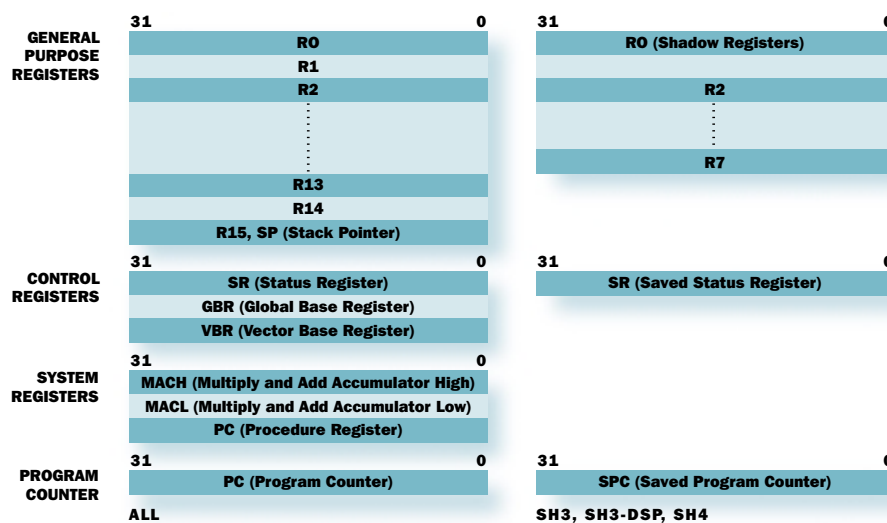

Figure 8: SH Architecture General Purpose Register Bank, Control Registers, and System Registers
In case of the SH architecture, arithmetic and logical instructions operate normally on the 32-bit general purpose registers. Special load/store instructions are provided to transfer data from memory to registers and vice versa. Figure 8 below shows the basic General Purpose 32-bit register bank which is used for source and destination operands. The SH-3, SH3-DSP and the SH-4 architecture feature in addition to the basic 16 registers, 8 32-bit shadow registers which can be accessed in the so-called privileged mode. Besides the general purpose registers, the SH architecture provides 4 System Registers providing a Program Counter (PC), Procedure Register (PR), and 2 32-bit Multiply and Accumulate Registers (MACH/MACL). A block of Control Registers finally completes the set of registers in the basic SH architecture. The Control Register Block contains the Status Register (SR), the Global Base Register (GBR), the Vector Base Register (VBR), and in case of SH-3, SH3-DSP and SH-4 the Saved Status Register (SSR), and the Saved Program Counter (SPC).
user mode, privileged mode is normally entered when an exception occurs. Also the shadow registers, see Figure 8, are then accessible.